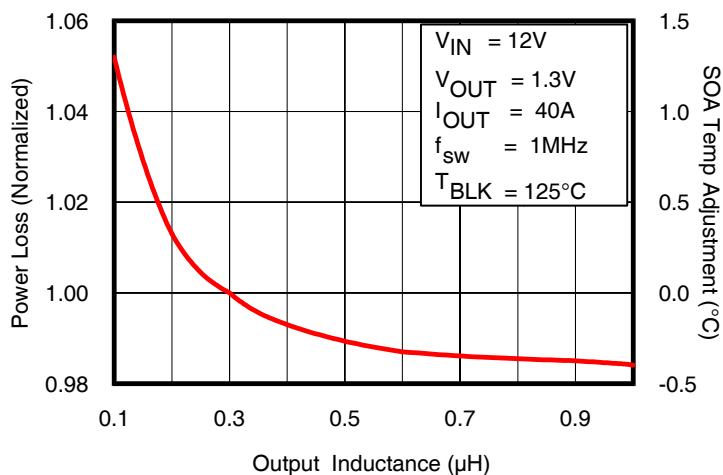

Fig. 6: Normalized Power Loss vs. Inductance
- (Fig. 6) Normalized power loss for inductor value ≈ 1.013
- (Fig. 6) SOA Temperature Adjustment for inductor value $\approx 0.25^{\circ}\text{C}$